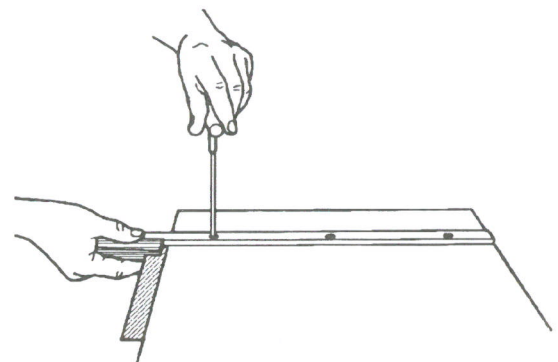

Fig. 2
4. Place a precision square against the guide bar and table. See Fig. 2.